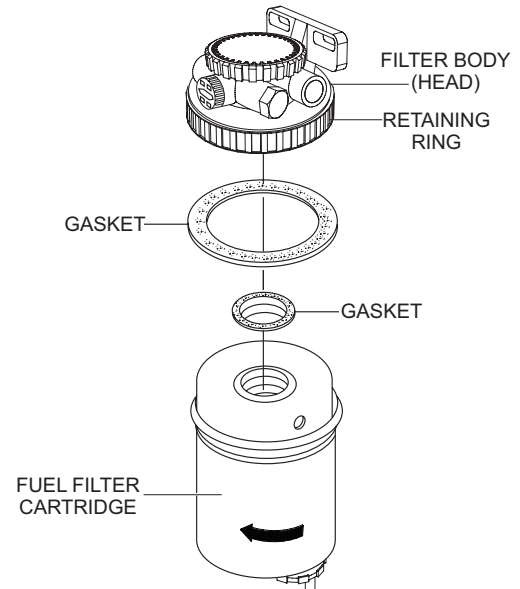

Figure 62. Fuel Filter Cartridge Replacement
1. Use a filter wrench to remove the fuel filter cup (Figure 62) from the fuel filter body.